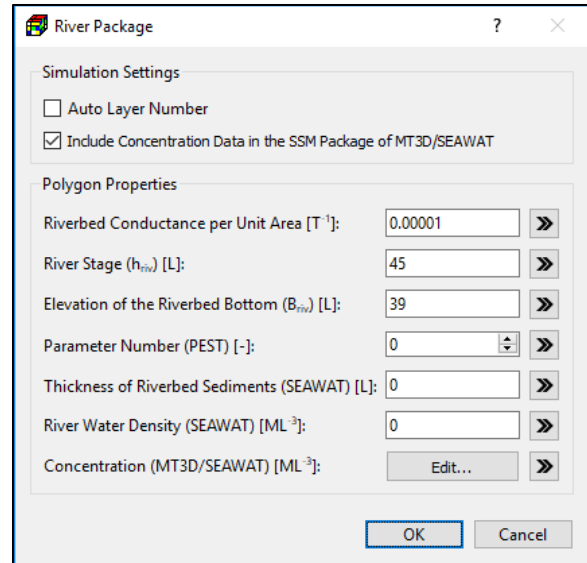

Figure 64. The River Package dialog box for specifying polygon properties
4. **Polygon input method:** Figure 64 shows a dialog box for specify the following data to a polygon. These data may be applied to model cells following the rules described in Section 3.3.2.3 and additional rules below.